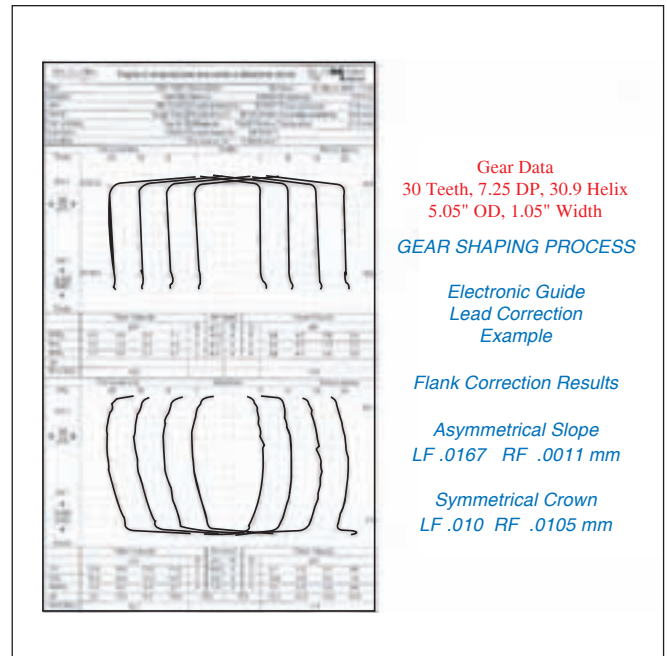

Figure 21—Lead crown correction made with a CNC guide.
- If finished shaped, bias error will occur, unless the machine has a CNC guide capability and special software. Then the finish cutting method is to cut a flank at a time, making a right-hand helical until mid-face, and then a left-hand helical. It would be the opposite for the other flank. One would think that this crown cutting method would make a lead correction that would look like a chevron. This is not the case; see the example lead chart made on a Gleason/Pfauter gear shaping machine with an electronic guide and special software (Fig. 21). Note the intentional asymmetrical and symmetrical lead corrections.